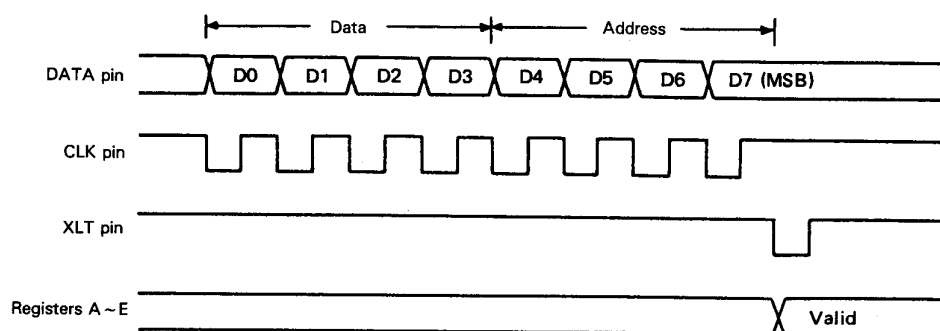
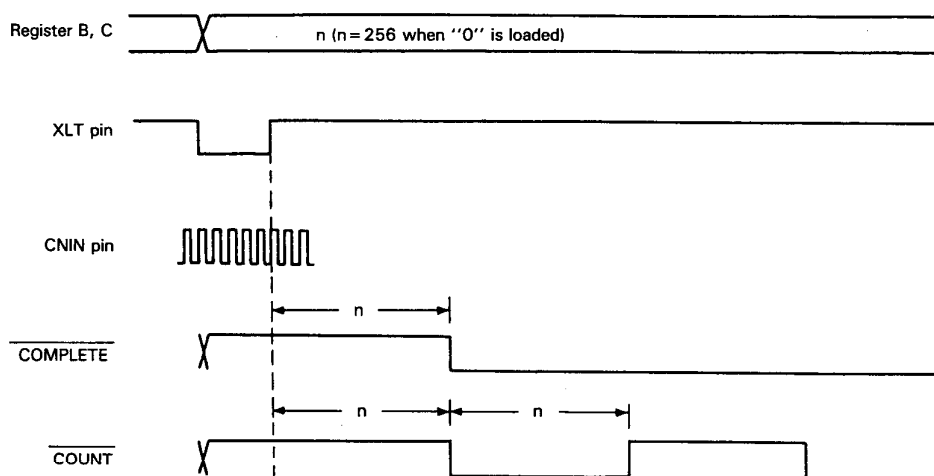

Fig. 1 Timing chart for data input
Fig. 2 Tracking counter timing chart
Each register may be set by input of 4-bit address, and 4-bit data from LSB in the timing that is shown in Fig. 1 to three pins, XLT, CLK and DATA. The address and data of each pin
The tracking counter timing chart is shown in Fig. 2.
- (1) COMPLETE : Address (see note) is "B"; Shown in Fig. 2.
- (2) COUNT : Address (see note) is "C"; Shown in Fig. 2.
- (3)  $PW \geq 64$  : Address (see note) is "E"; This signal is of LOW level when the pulse width after bottom hold is over 63, and is of HIGH level otherwise. It is used for detection of a drop in the speed of the spindle motor after braking and so on.
**Note:** Address setting is determined by the data corresponding to D4 to D7, which are input from the DATA pins shown in Fig. 1.